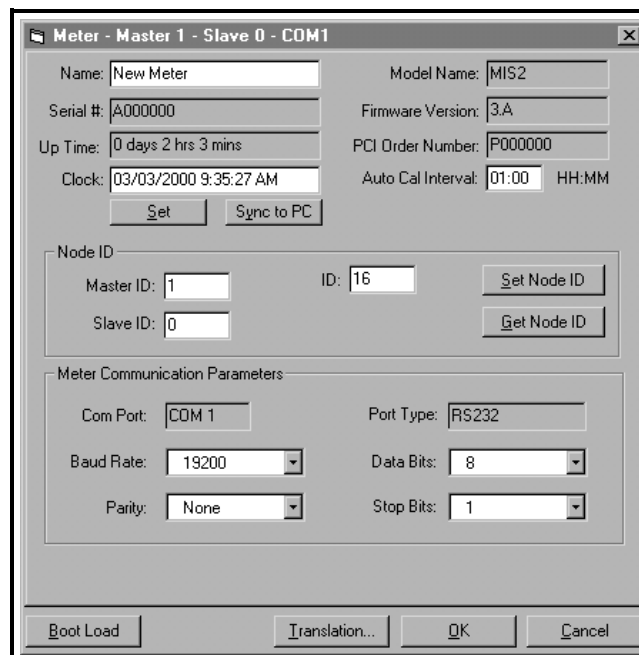
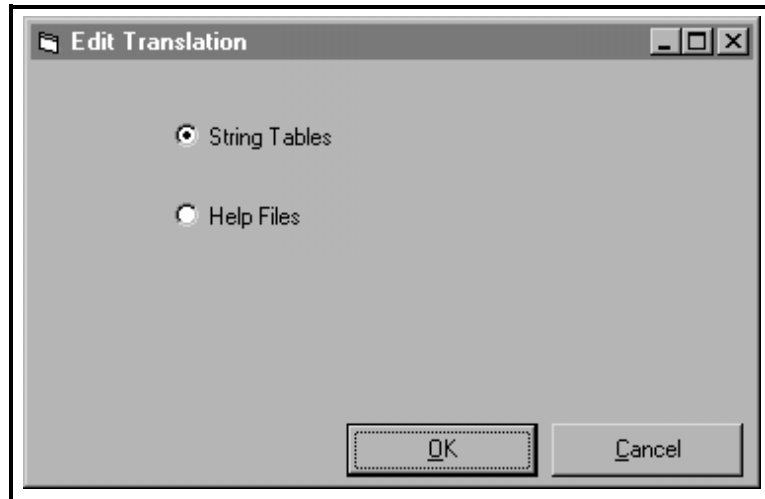
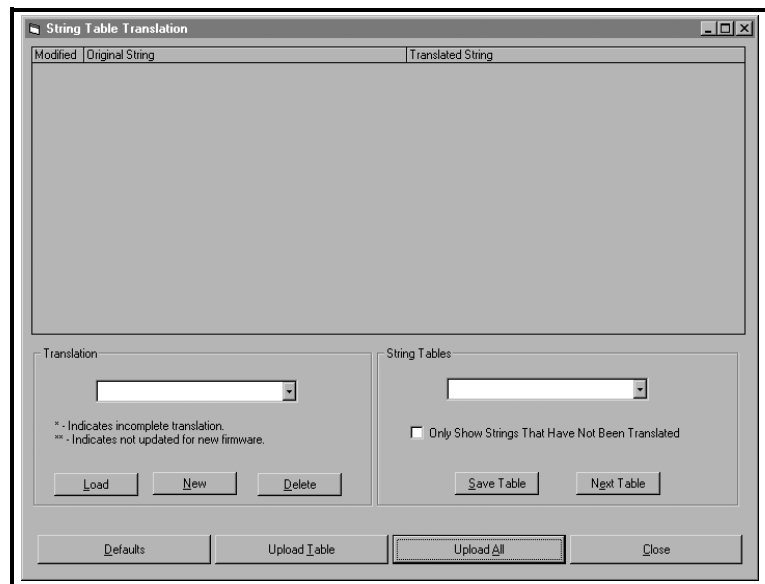
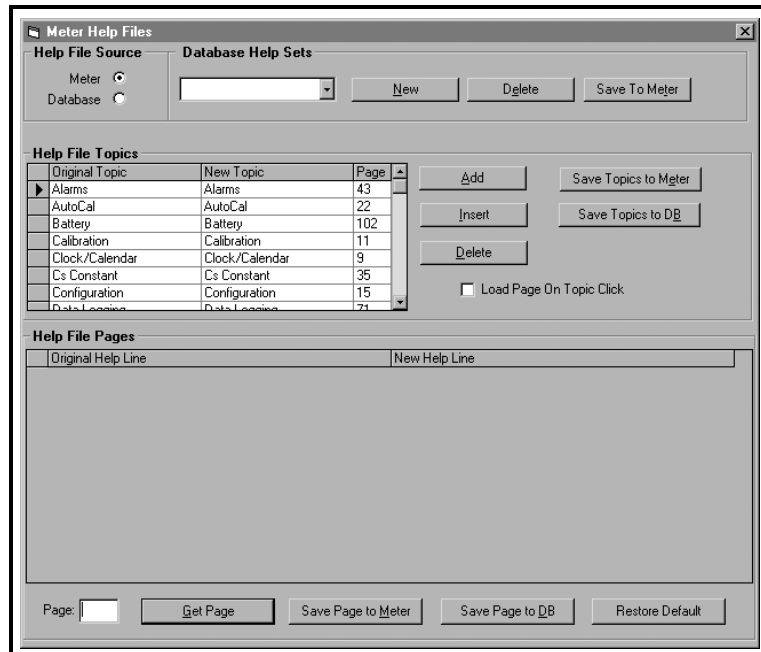

Figure 23: Meter Settings
Figure 24: The Edit Translation Dialog Box
Figure 25: String Table Translation
Figure 26: Help File Translation
4. From the “*Edit*” menu shown above, click on the “*Properties*” option. The dialog box shown in Figure 23 below appears.
5. Click on the [Translation] option button shown in Figure 23 above. The dialog box shown in Figure 24 on the next page appears.
- To edit the text that appears in the various analyzer *dialog boxes*, select the *String Tables* radio button in Figure 24 above and click on the [OK] option button. The dialog box shown in Figure 25 below appears.
- To edit the text that appears in the meter's *Online Help files*, select the *Help Files* radio button in Figure 24 on the previous page and click on the [OK] option button. The dialog box shown in Figure 26 below appears.